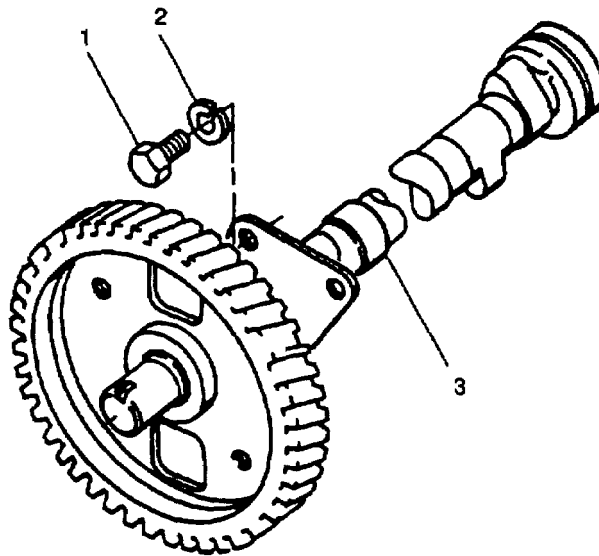

FIGURE 3-34. Camshaft Assembly
- e. Rotate camshaft until large holes in gear line up with two capscrews (1, FIGURE 3-34).
- f. Remove two capscrews (1) and lockwashers (2) securing thrust plate to crankcase; remove camshaft (3) from crankcase keeping it square at all times. Discard lockwashers.
- Carefully install camshaft (3, FIGURE 3-34) into crankcase keeping it square at all times. Take care to line up '0' timing marks on crankshaft and camshaft gears exactly.
- Rotate camshaft (3) until large holes in gear line up with bolt holes in thrust plate.
- Turn thrust plate as necessary to install two capscrews (1) and new lockwashers (2). Tighten capscrews (1) to 75-80 in-lbs (8.4 to 9.0 Nm).